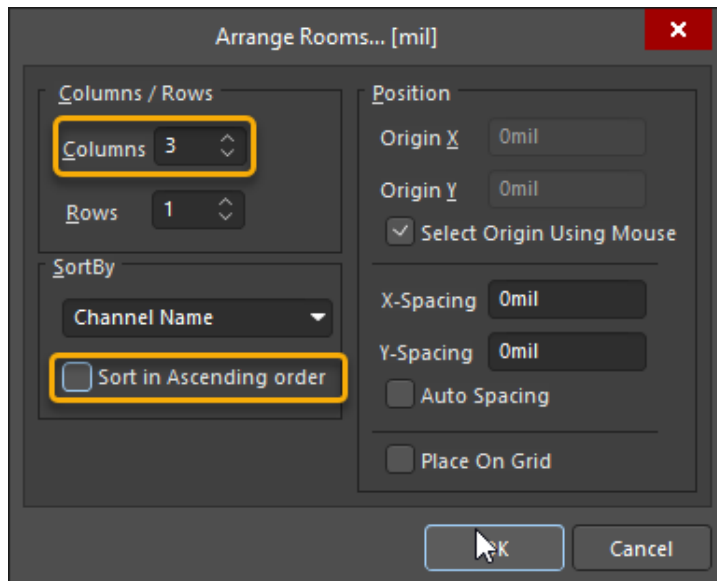

Figure 9. Arrange room dialog
- a) Set the columns to 3 as shown in Figure 9.